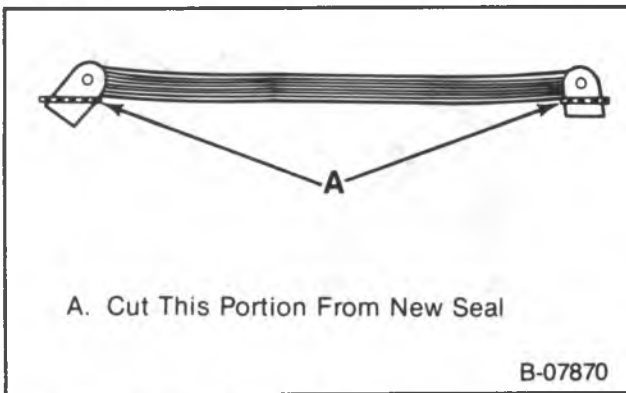

Figure 20 — Front Oil Pan Seal Modification
- Cut the tabs from a new seal as shown in figure 20. Use a sharp cutting tool such as a single-edge razor blade to help make a clean, straight cut.